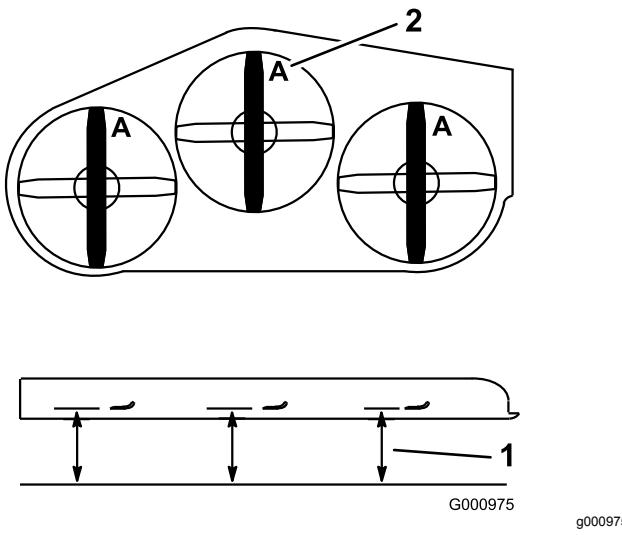

Figure 92
4. Measure at **A**, and from a level surface to the cutting edge of the blade tips (Figure 92).